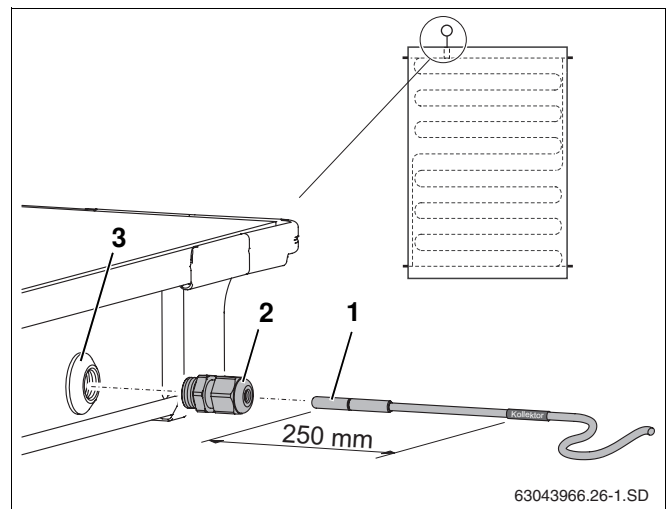

Fig. 51 Pushing the collector sensor into the collector
For perfect functioning of the solar thermal system, the collector sensor (Fig. 51, **Item 1**) needs to be inserted into the sensor guide tube as far as it will go (approx. 250 mm).
- Using the collector sensor or screwdriver, push through the sealing membrane on the sensor bush (Fig. 51, **Item 3**).
- Screw clamped joint (Fig. 51, **Item 2**) into sensor bush.
- Tighten clamped joint (Fig. 51, **Item 2**), counterhold if necessary.
If you accidentally push through the sensor bush (Fig. 51, **Item 3**) on the wrong collector, it can be resealed using the plug from the connection kit. You must first remove the nut in the sensor bush using the cable gland (Fig. 51, **Item 2**).